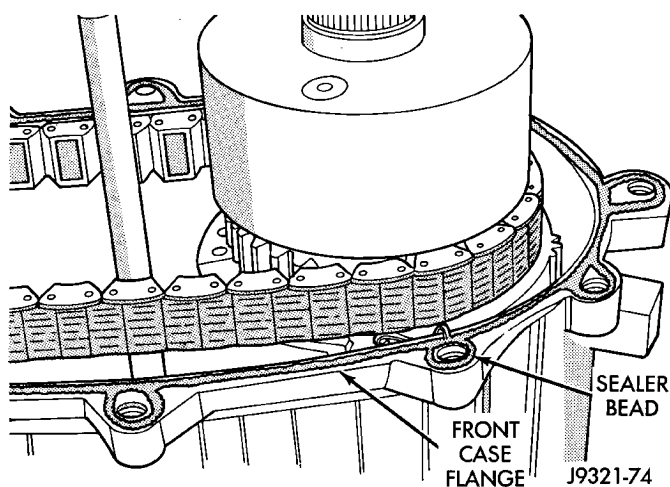

Fig. 66 Applying Sealer To Front Case Flange
(6) Clean sealing flanges of front case and rear case with a wax and grease remover.
(7) Apply 3 mm (1/8 in.) wide bead of Mopar® gasket maker or silicone adhesive sealer to mounting flange of front case. Work sealer bead around bolt holes as shown (Fig. 66).